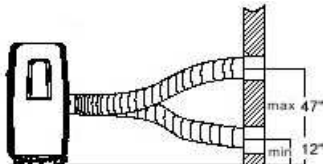

Fig.11
2. Align the exhaust hose to the channels of the air outlet opening (back of unit) and push in firmly, according to arrow direction on Fig.11.